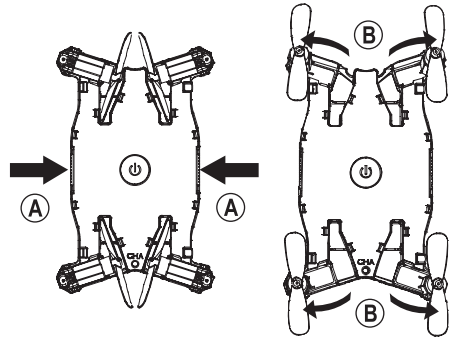

Figure 3
To fold out the rotors, press the two unlock buttons (see figure 3, position A) until the rotors click into place (B).